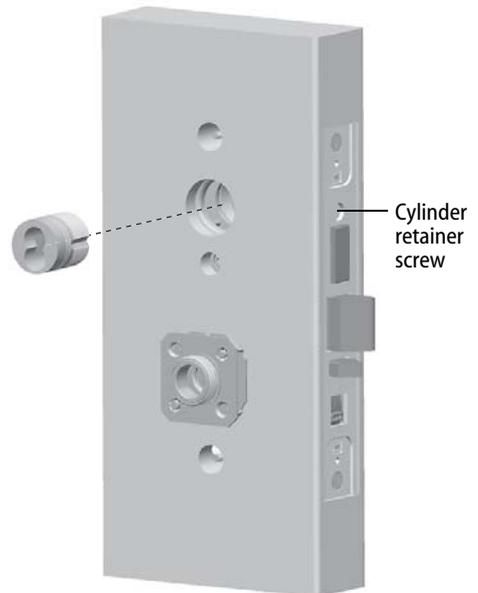

Figure 12 Installing the concealed cylinder
- 1 Use a cylinder wrench to thread the cylinder into the mortise case so that the groove around the cylinder is even with the door surface as shown in Figure 12.